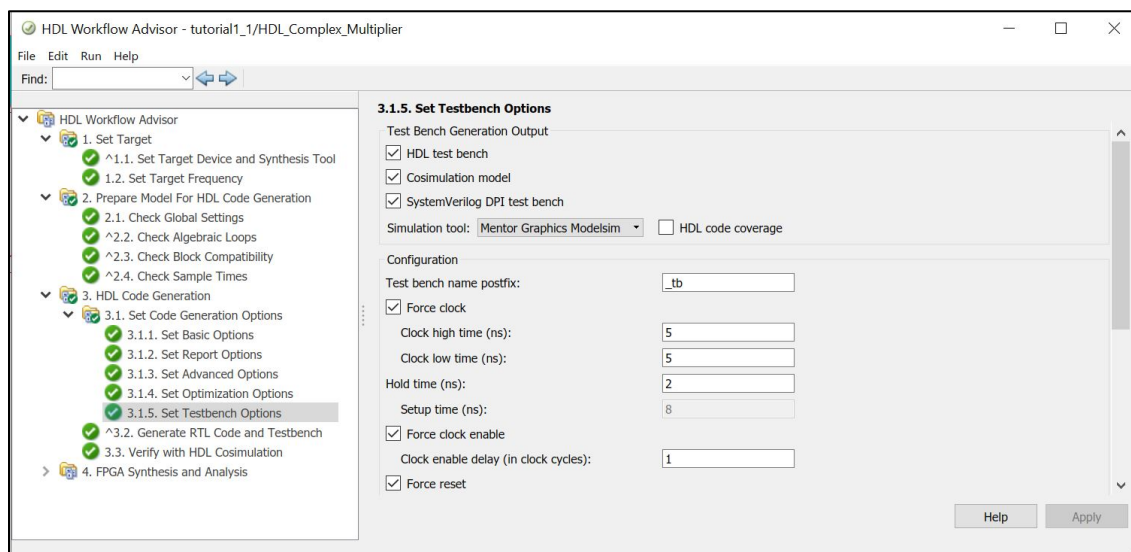

Figure 18: Set testbench option
- 3-12.** In step 3.1.5, Set the Testbench Options, as shown in Figure 18. Then, select 3.1 and click Run All.